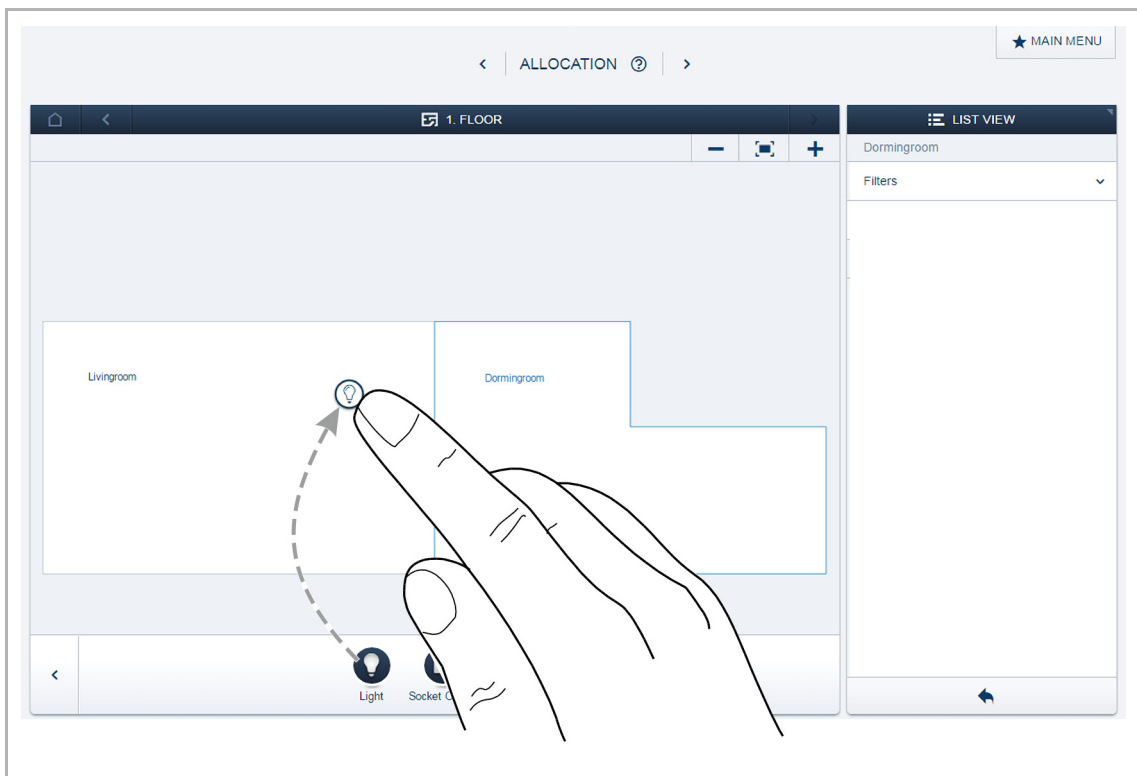

Fig. 26: Dragging the application from the add bar
- In the "Add devices" bar select the desired application and pull it via drag and drop onto the floor plan, see Fig. 26.